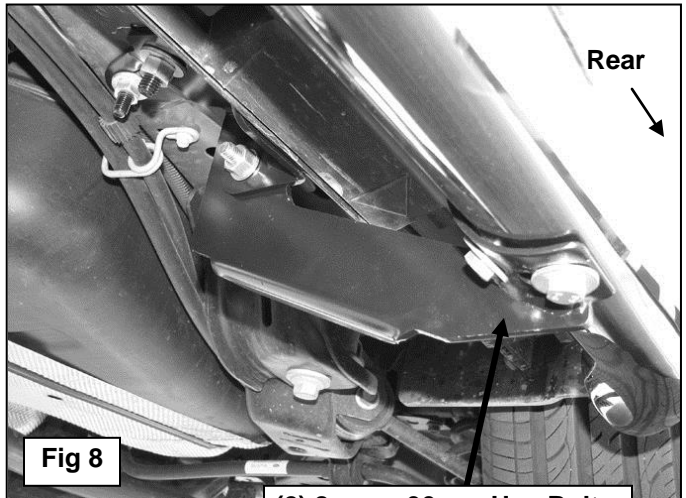

Fig 8
7. Select the driver Sidebar and carefully place it onto the Mounting Brackets to avoid damaging the finish on the Sidebar. Line up the holes in the Sidebar with the Mounting Brackets and bolt together with the included (4) 8mm x 30mm Hex Bolts, (4) 8mm Flat Washers and (4) 8mm Lock Washers, **(Figure 8)**.